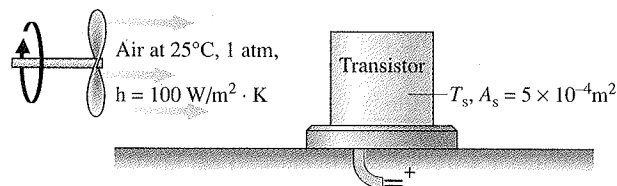

Fig. P2.63
2.63 As shown in Fig. P2.63, the outer surface of a transistor is cooled convectively by a fan-induced flow of air at a temperature of 25°C and a pressure of 1 atm. The transistor's outer surface area is 5×10^{-4} m². At steady state, the electrical power to the transistor is 3 W. Negligible heat transfer occurs through the base of the transistor: The convective heat transfer coefficient is 100 W/m² · K. Determine (a) the rate of heat transfer between the transistor and the air, in W, and (b) the temperature at the transistor's outer surface, in °C.